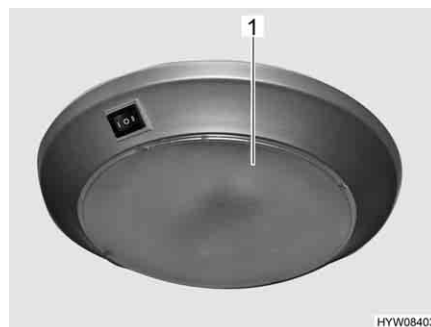

Fig. 201 Ceiling lamp
- Carefully unclip and remove the transparent plastic insert (Fig. 201,1).